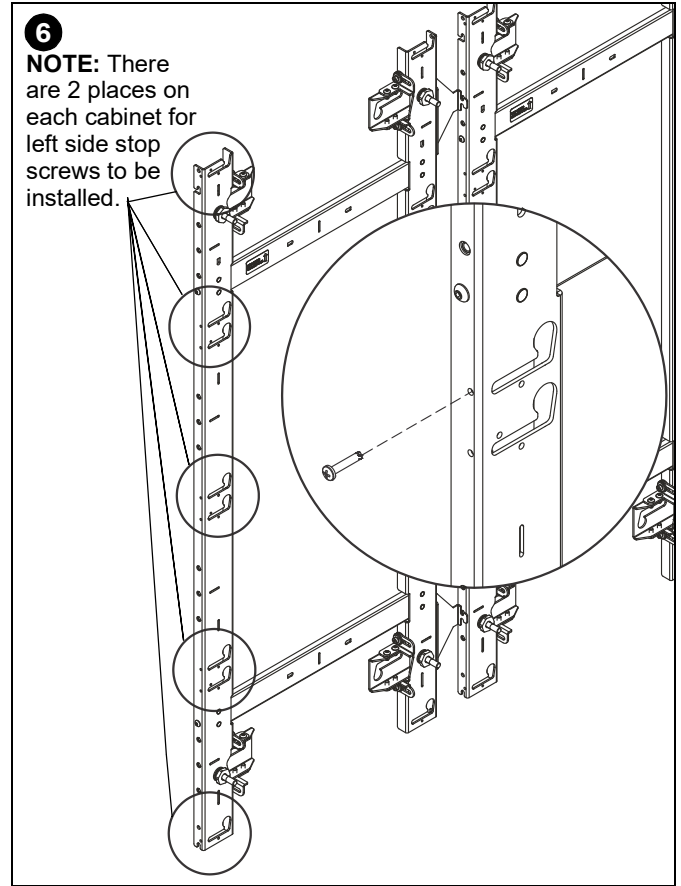

Figure 19
- Insert one 10-24 x 1-1/4" self-tapping screw (D) into the left side of the mount. (See Figure 19)